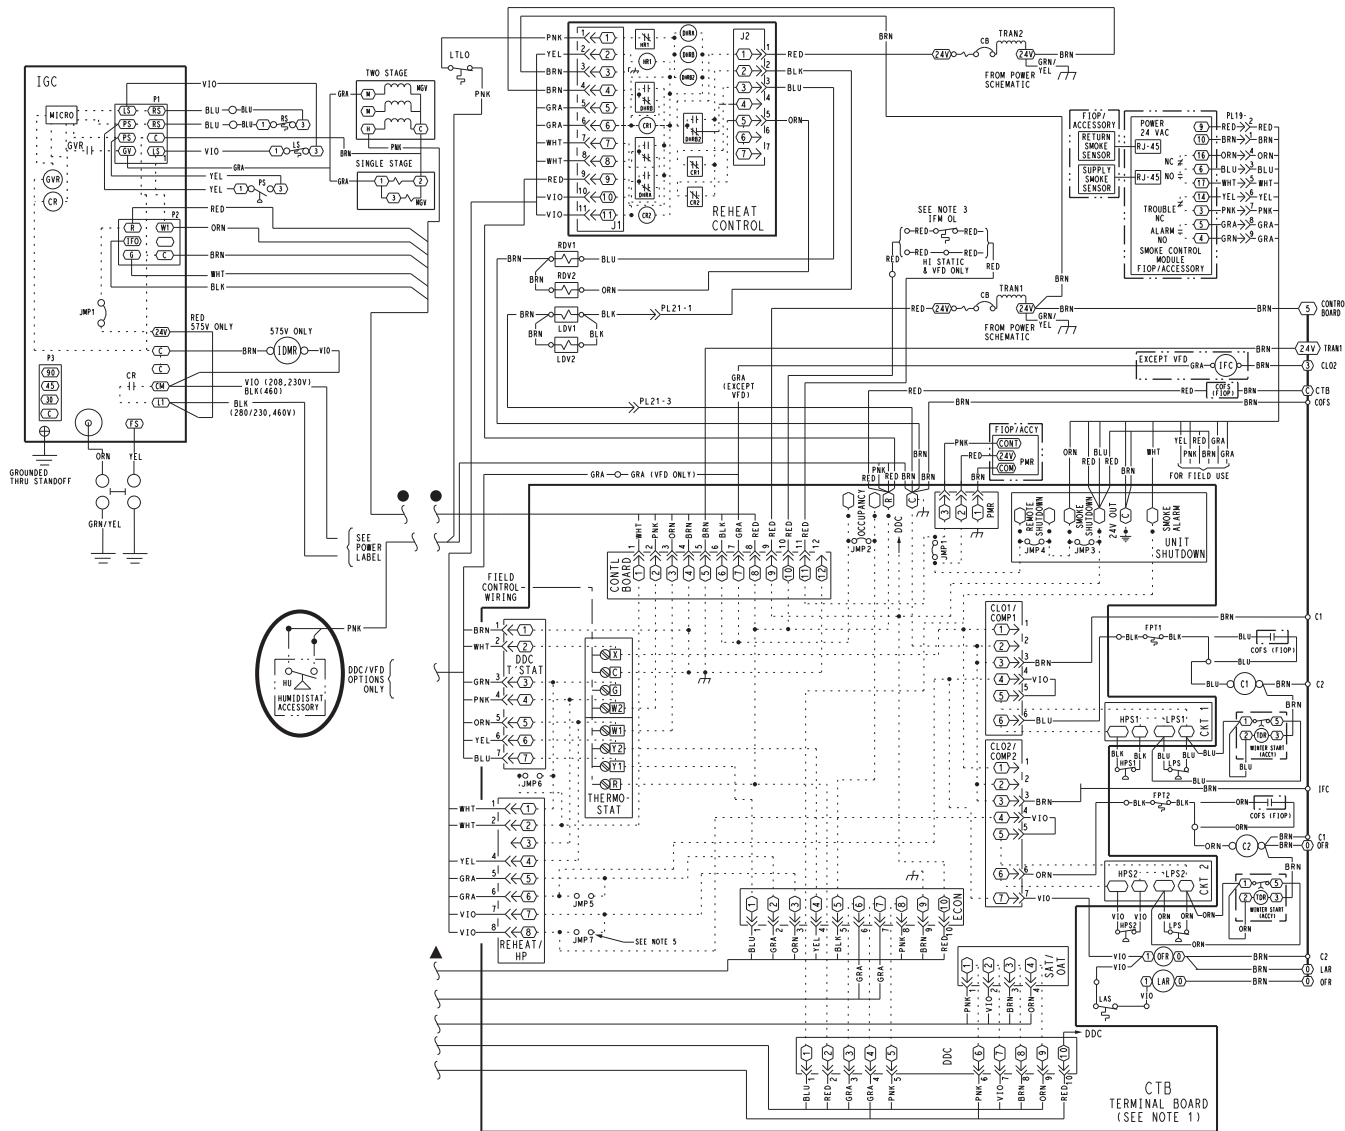

Fig. 59 — RGS180, Typical Hot Gas Re-Heat System Humidistat Wiring
5. Use wire nuts to connect humidistat cable to two PINK leads in the low-voltage wiring as shown in Fig. 59.